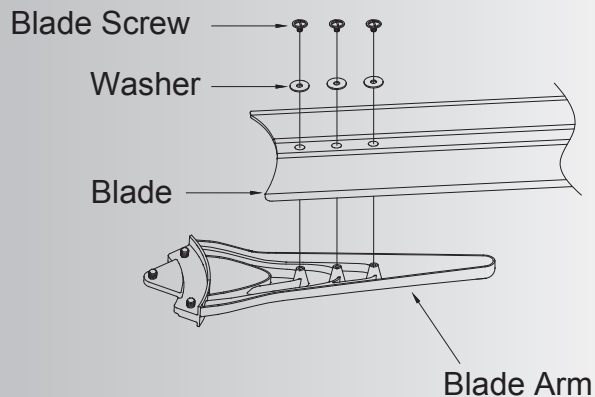

Fig. 17
**Step 1.** Position the blade over the blade arm with threaded posts showing. Make sure the bottom edge of the blade is fully seated against the blade arm. With a Philips screwdriver, start a screw into the blade arm (do not tighten) and repeat for the 2 remaining blade screws and washers. Tighten each screw securely starting with the center screw. Make sure the blade is straight. Repeat steps for the remaining blades. (Fig. 17)